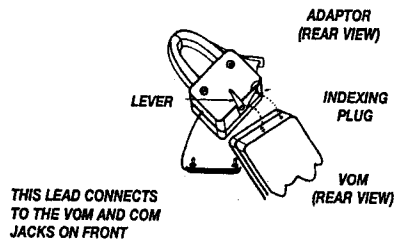

FIGURE 1
1. Rotate the lever on the bottom of the adaptor until it points straight out (see Figure 1).
1. Rotate the lever on the bottom of the adaptor until it points straight out (See Figure 1).